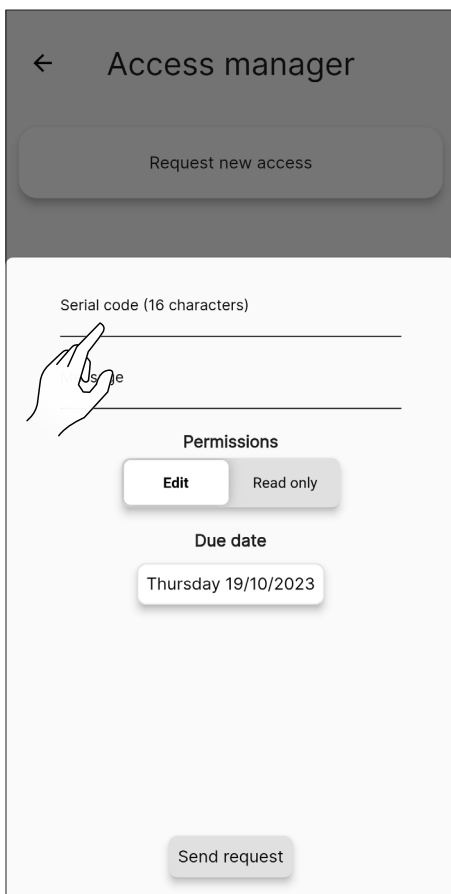

Fig. 8.29
- a dialog box will open (Fig. 8.29)